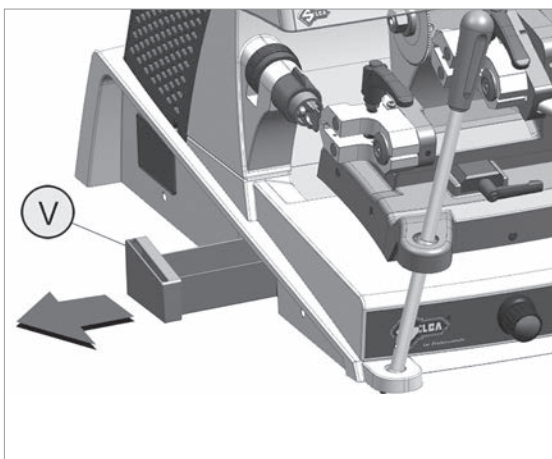

Fig.64
- 1) Remove the swarf tray (V) (Fig.64).
- 6) Loosen the 2 screws (X1) and remove the bottom cover (X).
- 7) Place the machine upright on the worktop and insert the swarf tray (V) (Fig.64).